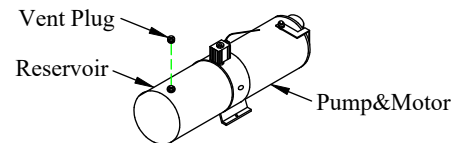

Figure 13: Vent plug.
7. **Install** the vent plug provided into the pump reservoir (Figure 13).